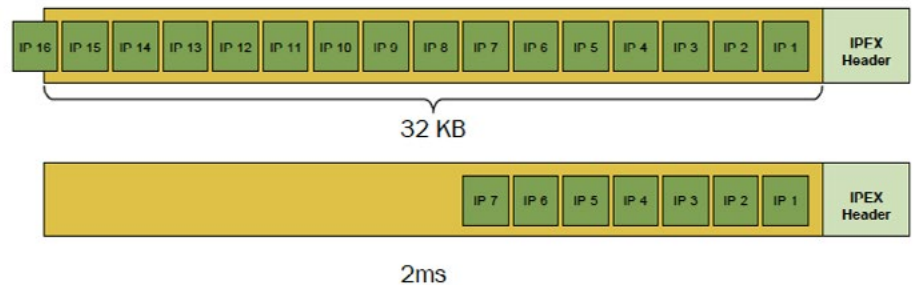

Figure 7: IP extension batch formation.
IP extension batching is a bit different than FCIP batching. IP extension batches are created on a stream basis. 1024 streams are supported on the Brocade 7840, 512 streams per DP. A batch fills until it gets to 32 Kilobytes (KB), and then no more IP datagrams are added. Refer to Figure 7. In this example, the 16th IP datagram either meets or exceeds the 32-KB quantity; therefore, it is the last IP datagram to be added to the batch. If data is arriving at 10 Gbps, it takes about 25 microseconds (μ s) to fill a batch. In the event that no more IP datagrams arrive for that stream, there is an up to 2 ms backstop timer that triggers the processing of that batch. Also, if TCP frame is received with a PUSH Flag set, it triggers the processing of that batch. After an IP extension batch is formed, the processing of that batch is identical to that of FCIP batches.